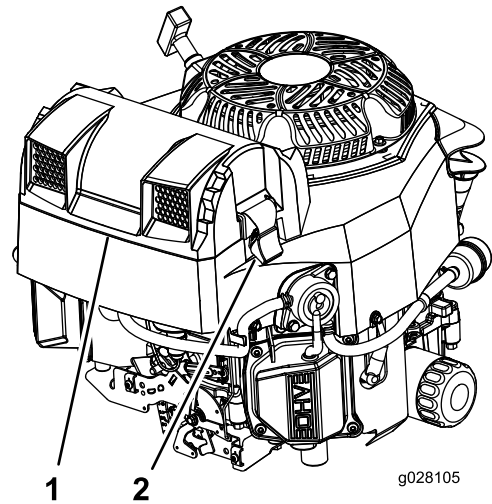

Figure 57
2. Remove the cover to access the air-cleaner elements (Figure 57).
- Install the cover, and secure it with the latches (Figure 57).